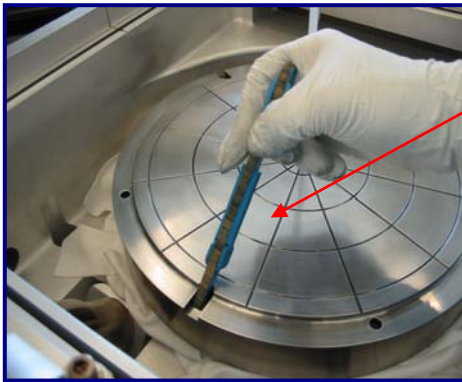

Fig 44 & 45:
Step 25: Use ScrubWRIGHT™ Pen to clean the three lift ring inserts along edge of the Degas Heater Assembly (See Fig 44, 45, 46 & 47)